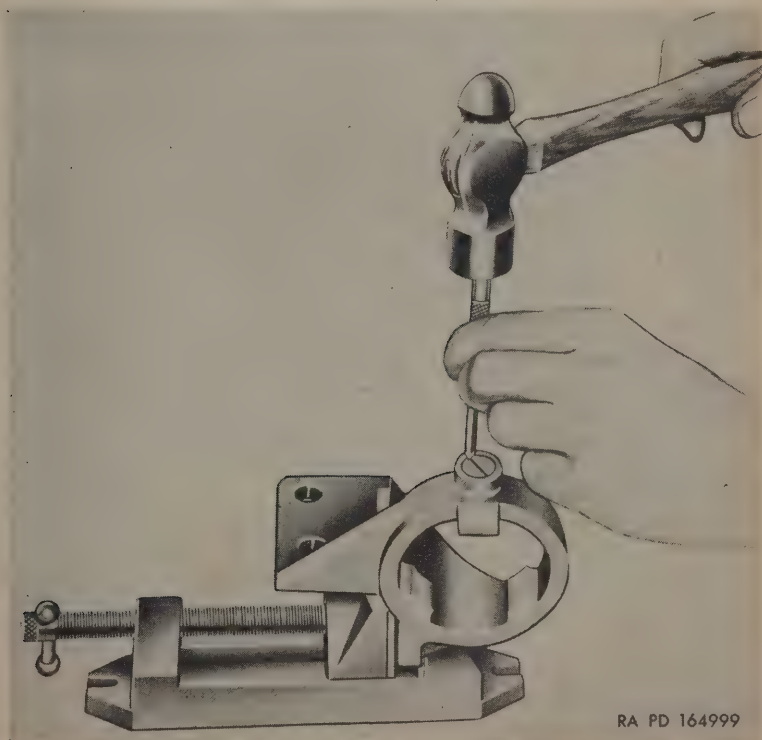

Figure 25. Staking a plug in place.
*a. General.* Staking (fig. 25) is a process usually employed to secure two parts together. It is not, as is often the case, to be confused with waterproofing of screwheads, etc. Threaded parts that draw up to a certain critical point are sometimes staked to maintain that point. The advantage of staking is that it is an absolutely sure method of holding parts together or in final position.